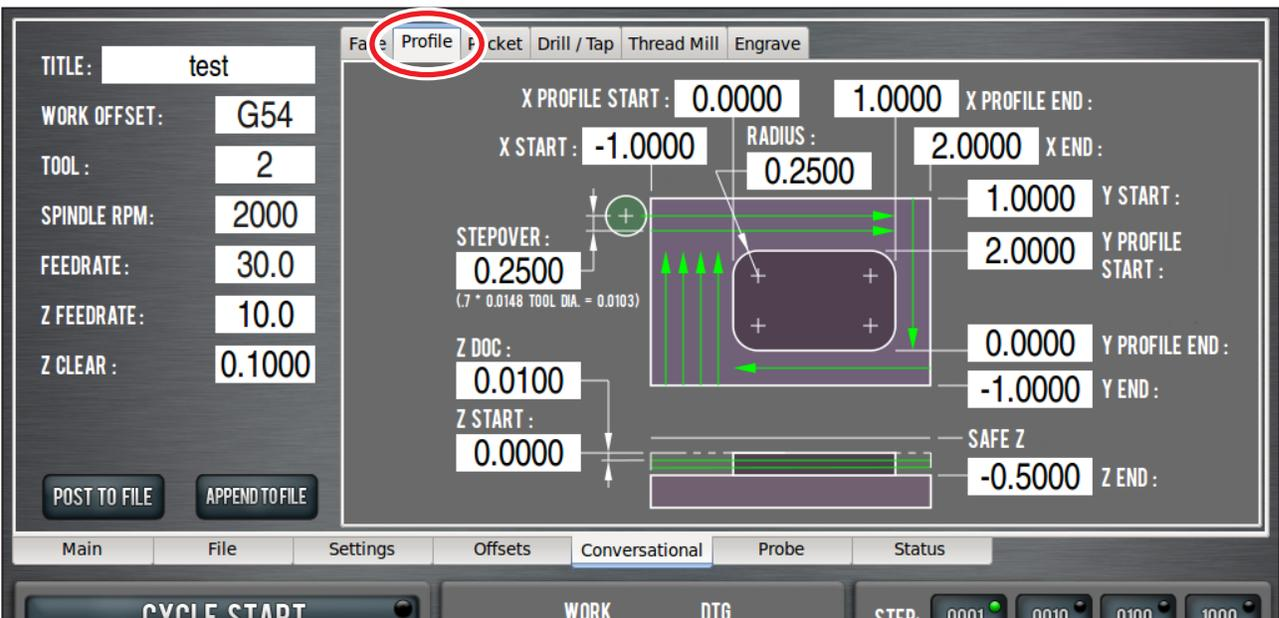

Figure 6.22
*Profile* cuts an XY area with successive *Z Depth of Cuts* to form a rectangular island (see **Figure 6.22**).